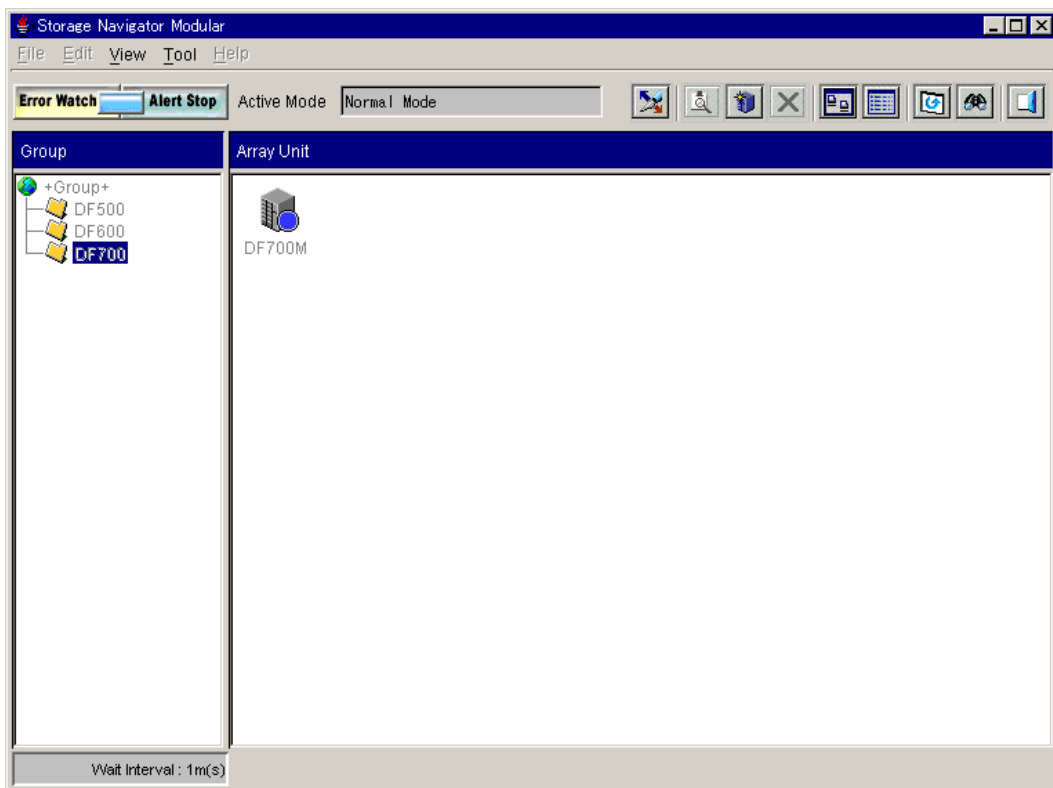

Figure 15.4 Starting Error Monitoring
- Select  : **Error Watch** on the Main window (see Figure 15.4).